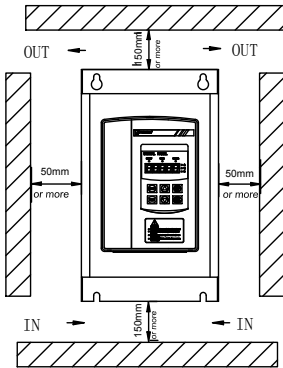
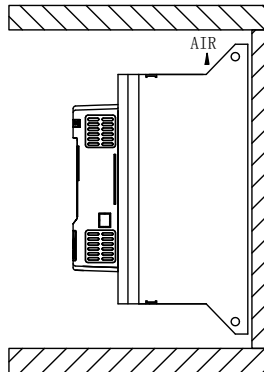

Figure 3.1
Figure 3.2
■ Installation direction and distance: In order to ensure that the soft starter in use with good ventilation and cooling conditions, soft starter should be installed vertically, and in the equipment with sufficient heat dissipation space all round, as shown in Figure 3.2 and Figure 3.1, in the photo, to allow the minimum distance.